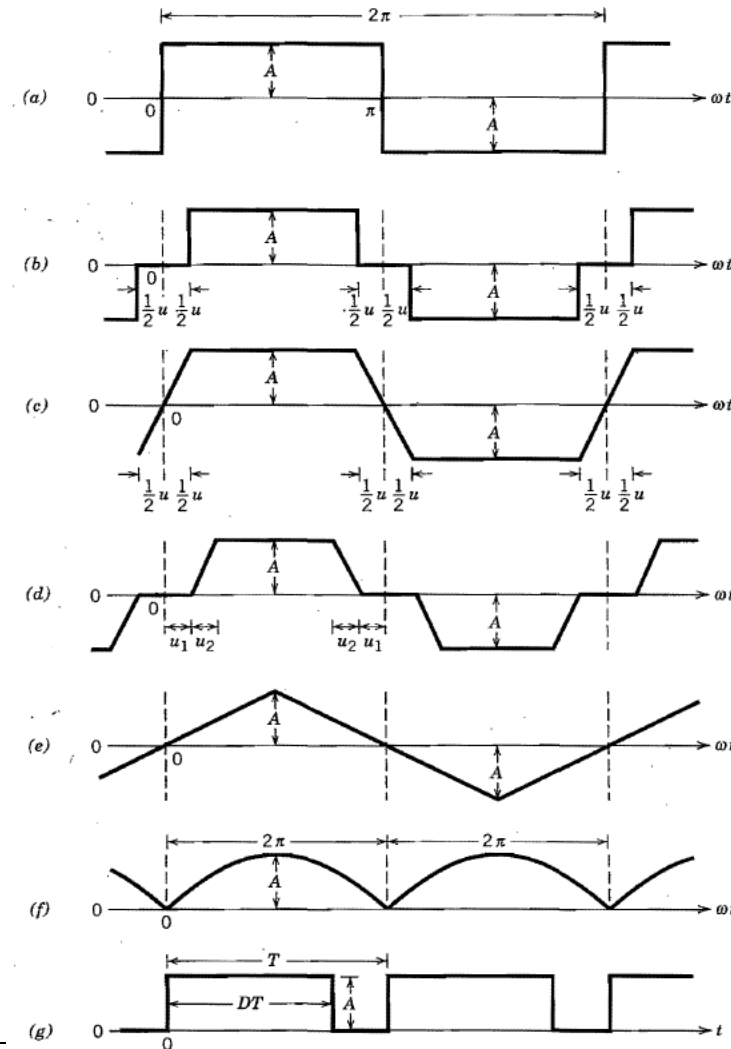

Figure P3-3
- For the waveforms in Fig. P3-3, calculate their average value and the rms values of the fundamental and the harmonic frequency components.
In the waveforms of Fig. P3-3 of Problem 3-3, $A = 10$ and $u = 20^\circ$ ($u_1 = U_2 = u/2$), where applicable. Calculate their total rms values as follows: